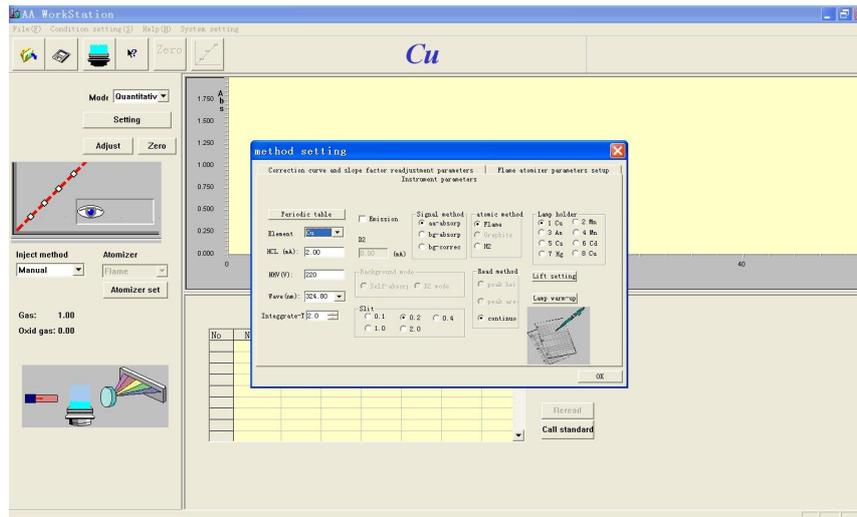

Figure 4-5
5. Press "OK", and the screen is as shown in Figure 4-5.